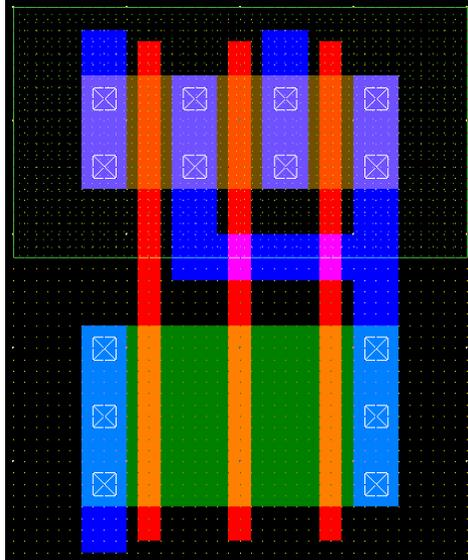

Figure 6
Align them using "Stretch, Move" button, if necessary. Run DRC. Then join the polysilicon of PUN and PDN. The shorted polysilicon fingers will be the inputs (A, B, C). Now remove metal & contact from the middle of PDN, since all three nMOS of PDN are in series. Then form the output (Y) terminal using Metal1 by joining drain terminal of upper nMOS of PDN (that is closer to output) with shorted drain of all three pMOS of PUN. The layout will look like Fig. 6 below.